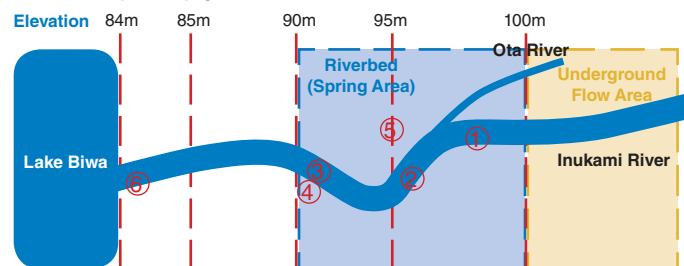

Figure 1: Six sites in Inukami River were selected for water quality determination
Six sites in Inukami River were selected for pH, conductivity (EC), dissolved oxygen (DO) and temperature measurements (See Figure 1). These four water quality parameters have important interactions between each of them. For example, conductivity measurement is typically conducted in checking the cleanliness of water. Conductivity increases as temperature and dissolved charged ions (e.g. Na^+ , Cl^- , NO_3^-) from inorganic substances (e.g., minerals, salts) in water increases. pH is also affected by temperature and minerals dissolved in water. Unlike conductivity, dissolved oxygen concentration decreases as water salinity and temperature increases.